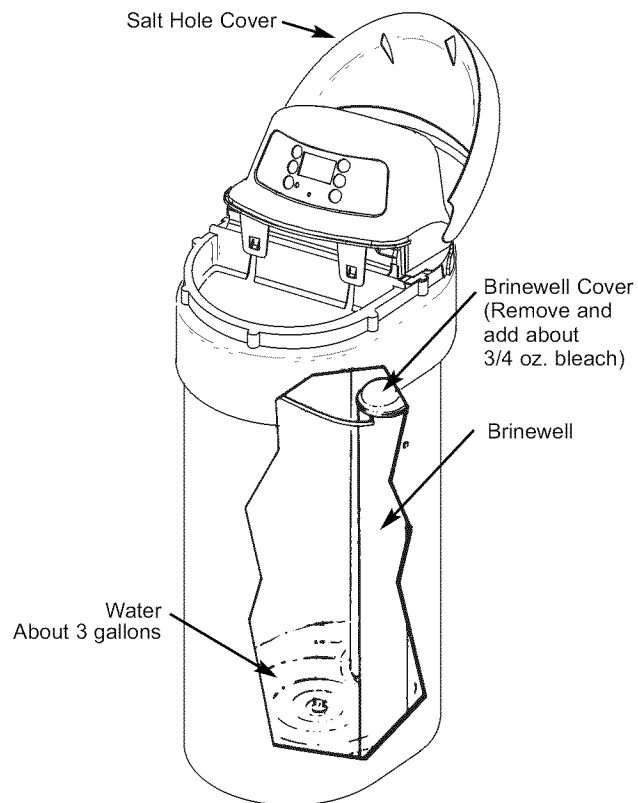

FIG. 28
3. Remove the brine well cover (Fig. 28) and pour about 3/4 ounce, or 1 to 2 tablespoons, of common 5.25%, *unscented*, household bleach (Clorox, Linco, BoPeep, White Sail, Eagle, etc.) in the softener brinewell. Replace the brinewell cover.